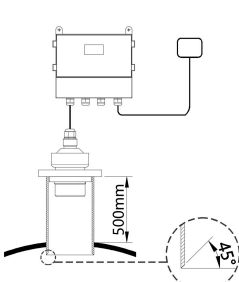
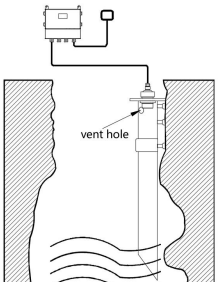
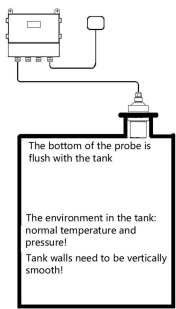

Figure 1
Figure 2
Figure 3
- 3) If the distance from the probe emitting surface to the highest liquid level is less than the blind area of the purchased instrument, an extension tube is required, and the diameter of the extension tube is  $\geq 150\text{mm}$ , length 0.2m-0.5m, vertical installation, smooth inner wall, the hole on the tank body should be larger than the inner diameter of the extension pipe. (Figure 1)
- 4) If the wall of the pool or tank is uneven, there are other obstacles, the water surface fluctuates violently, and there are foams or other impurities on the water surface, the meter needs to follow the guide pipe, or connect the pipe to the bottom of the pool or tank, with a pipe diameter  $\geq 110\text{mm}$ . Leave a gap at the bottom of the pipe so that the liquid level in the extension pipe is equal to the liquid level in the pool or tank. On the extension pipe, near the probe, open a few small holes so that the air in the pipe can communicate with the outside of the pipe! (Figure 2)
- 5) For flange installation on tanks at normal temperature and pressure, the probe surface of the instrument is best exposed in the tank, as shown in Figure 1; if it is not possible in the field environment, the diameter of the pipe fixing the flange is shown in Figure 2 and Figure 3, and the length h is between 100mm-300mm. The larger the h value, the larger the corresponding d value.